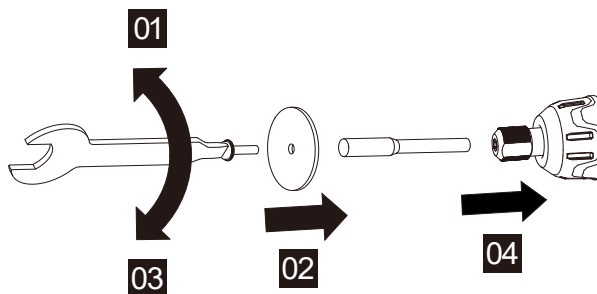

Figure 4
4. FITTING A DISC (SEE FIG. 4)